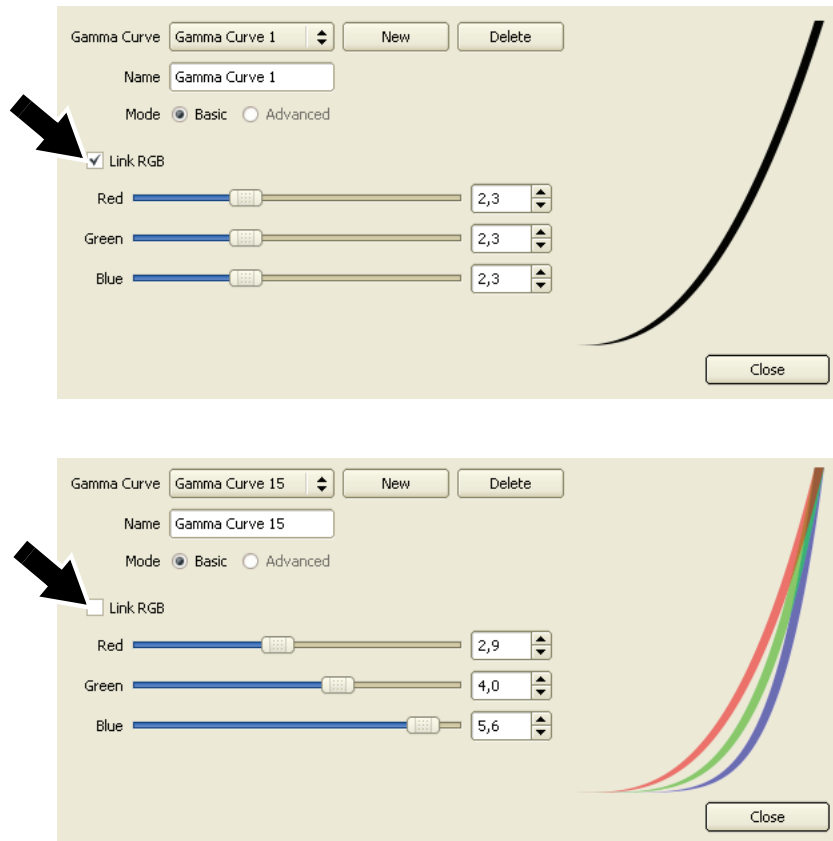

Figure 20: Gamma curve editor
2. Under **Gamma** you can select a preset gamma curve or click on **Edit** to open the **Gamma Curve Editor** (see Figure 20) where you can fine-tune the gamma curve of your display.